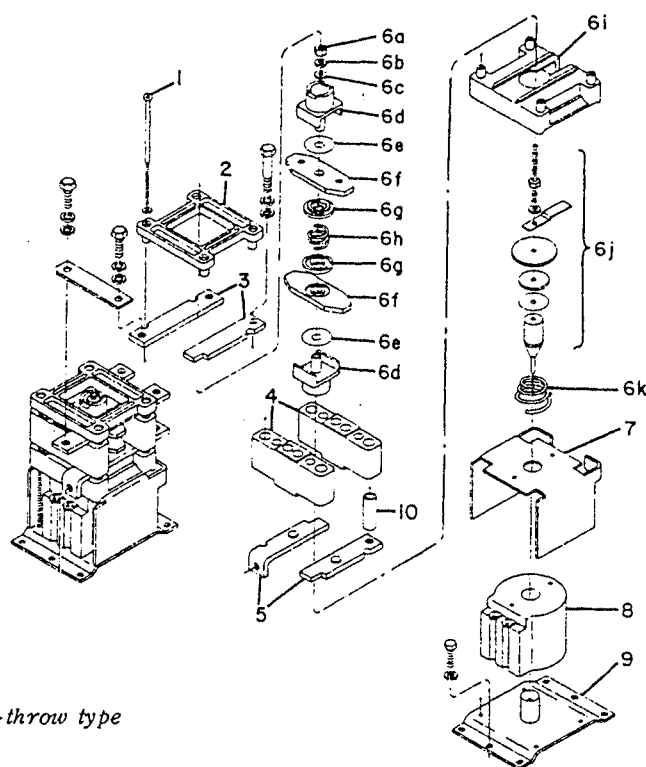

Fig. 2. Assembly of single-pole, double-throw type
(Refer to Fig. 2, page 2 for exploded view and parts index).
3. Locate the projections on the magnet frame in the indentations on top of the coil with frame oriented as in Fig. 2.